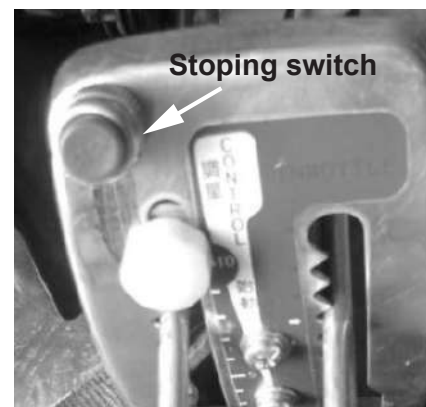

Fig 10
- During misting operation turn off the chemical switch first,then press the stoping switch(Fig.10) stop the machine.